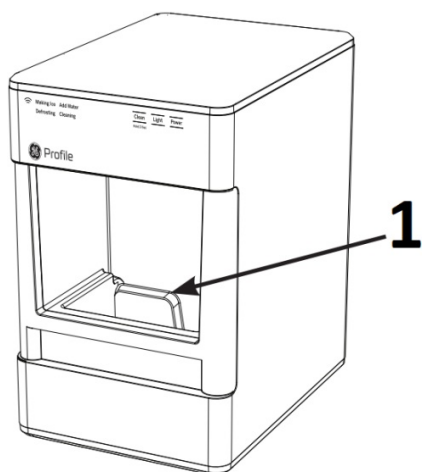

Figure 2
5. Pour solution into water reservoir, up to the fill line shown. See figure 2.